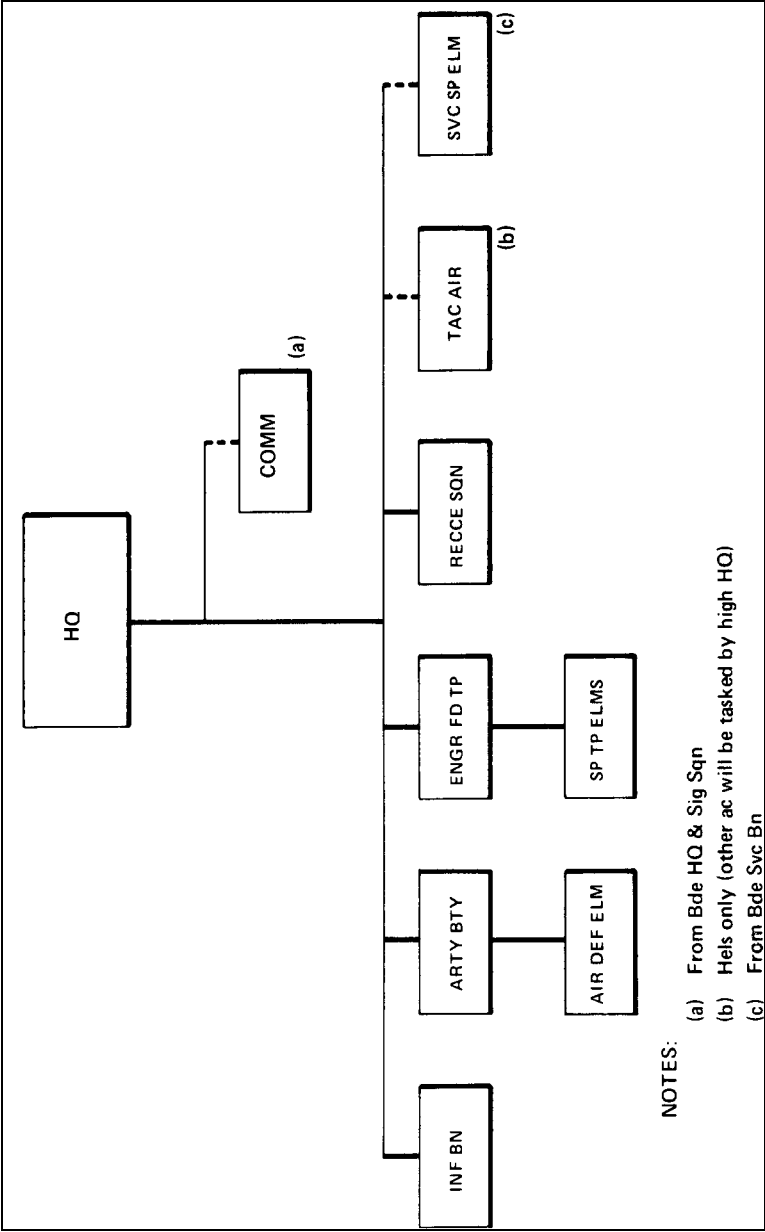

Figure 1-5 Battle Group for Subarctic Operations (Canadian Scenario!)
35. A similar task force deployed in the subarctic might be organized as shown in Figure 1-5. Short distances, more dependable flying weather, and the presence of ground-transportation systems will allow heavier scales of equipment. Task forces operating from existing road or rail heads in the Canadian north will be within 325 km (200 miles) of most potential areas of operation.